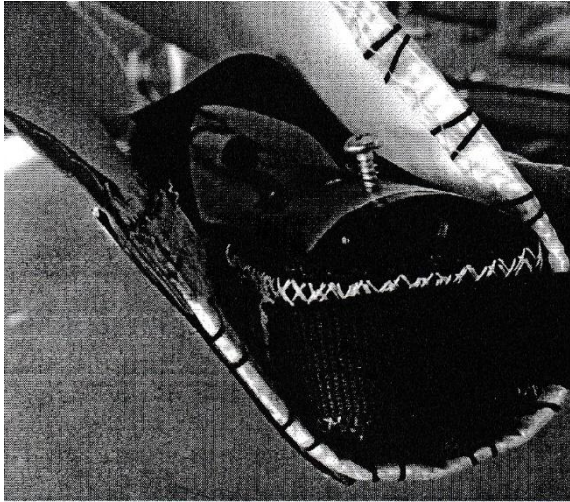

Figure 5
3. Tighten the sail along the leading-edge by putting the sail mount webbing into the slot in the end cap of the outer leading-edge tube. Secure the sail mount webbing to the outer leading-edge with the sail mount webbing Velcro (fig.4 and fig.5).